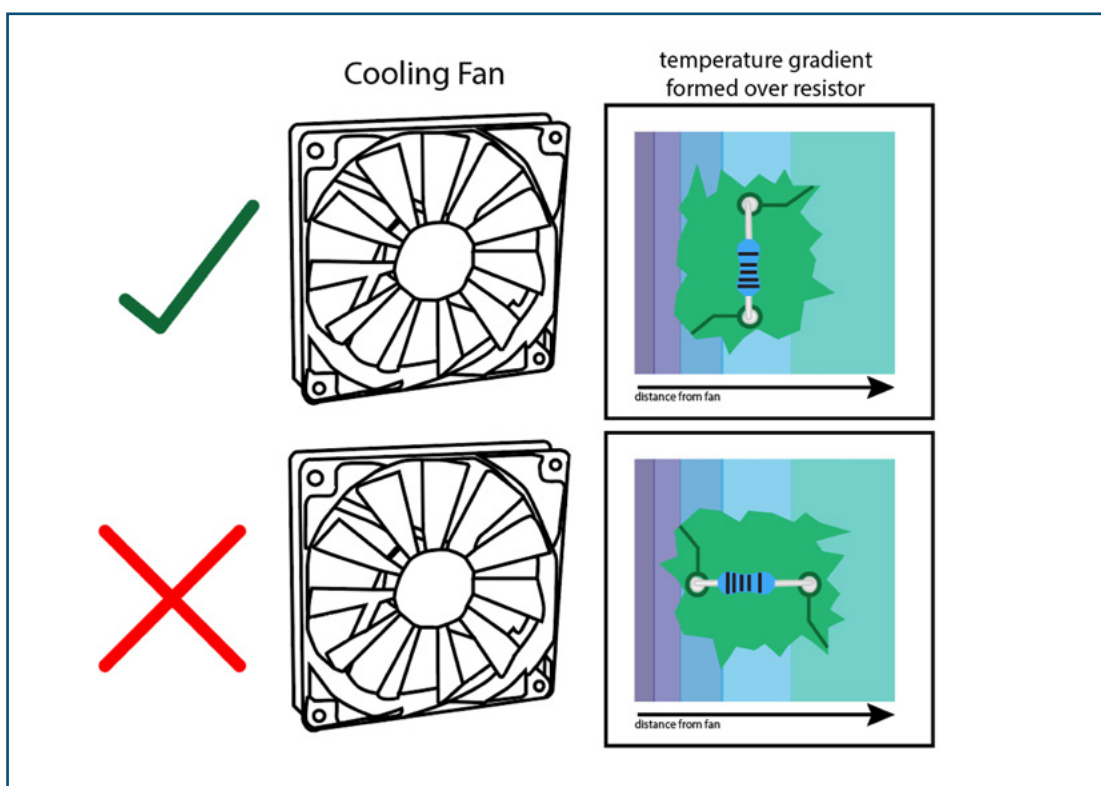

Figure 4. | Correct positioning of resistor in a forced-air cooling system
3) If a cooling fan is present in the system, then the resistor should be perpendicular to the airflow. Figure 4 demonstrates the proper placement of a resistor in the presence of forced-air cooling. This, again, minimizes the temperature gradient that is formed between the two dissimilar material junctions.